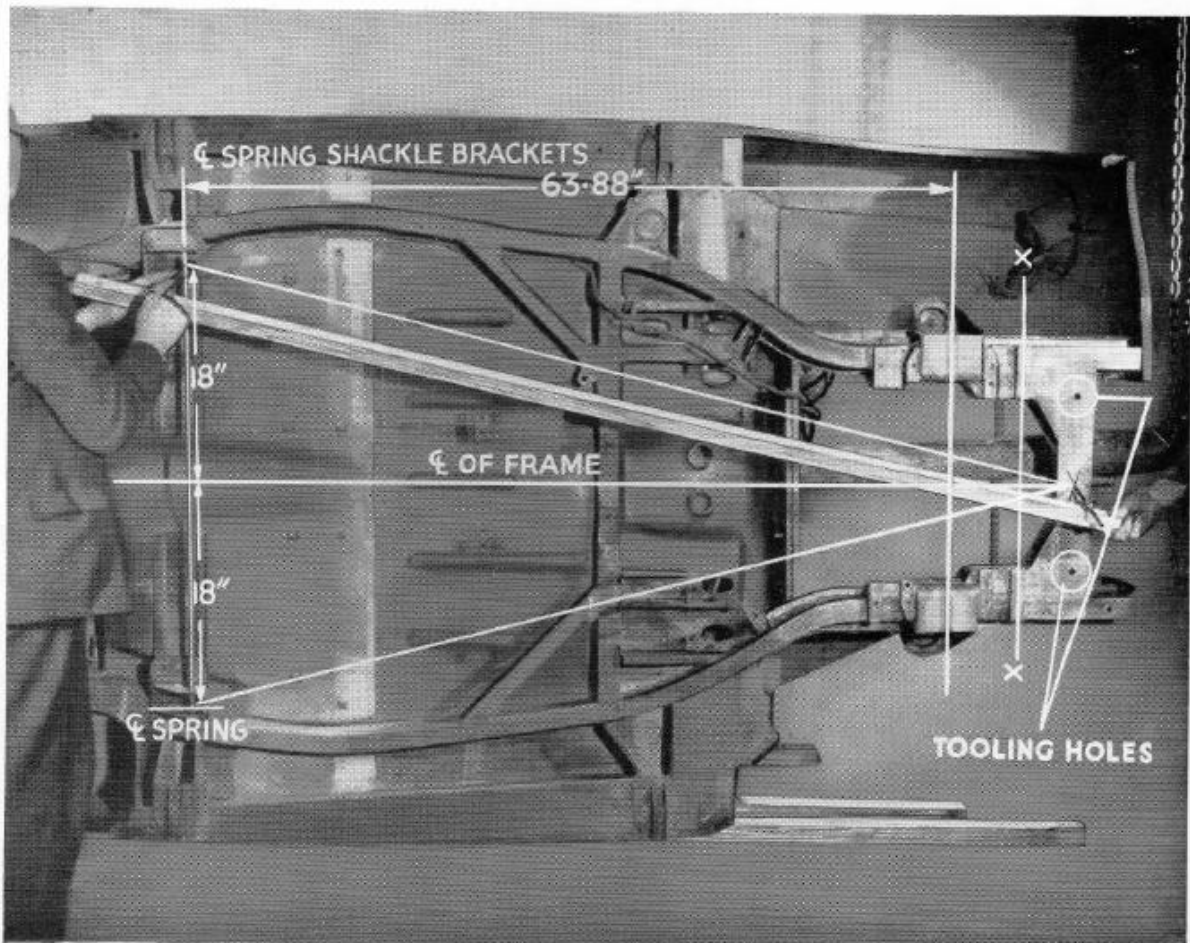
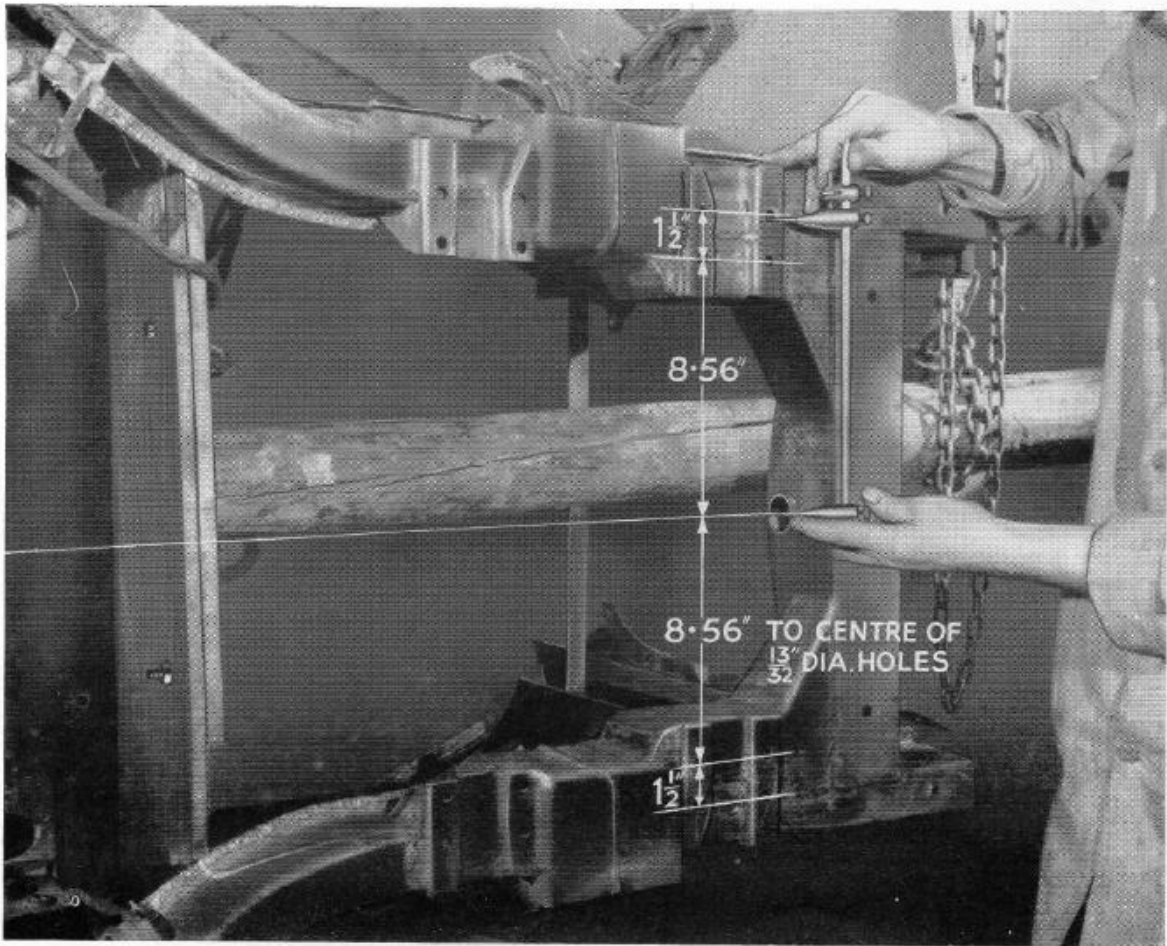

Fig. 6. Showing method of trammelling the underframe.
Fig. 10. Checking front suspension pick-up points.
rear spring shackle bracket, approximately 2 ins., then draw bar back through left-hand bracket until the central centre-punch mark coincides with the centre line of the frame, the outer centre-punch marks will then represent the centre line of each rear spring eye. With the centre-punch marks uppermost on the bar use a trammel bar with points from right-hand and left-hand spring centres to mark off centre on front frame cross member as shown in Fig. 6. By checking from the centre mark made on the frame cross member to the right- and left-hand tooling holes shown in illustration, the amount of error, if any, at this point can be seen.
1. Strain a light gauge piano wire along centre line of frame, Fig. 10, and check front suspension pick-up points and front axle centre line, Figs. 6 and 10.